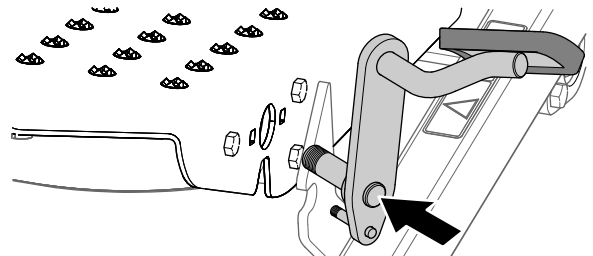

Figure 11
8. Align the locking pedal to the left footrest and the holes in the pivot bracket (Figure 11).